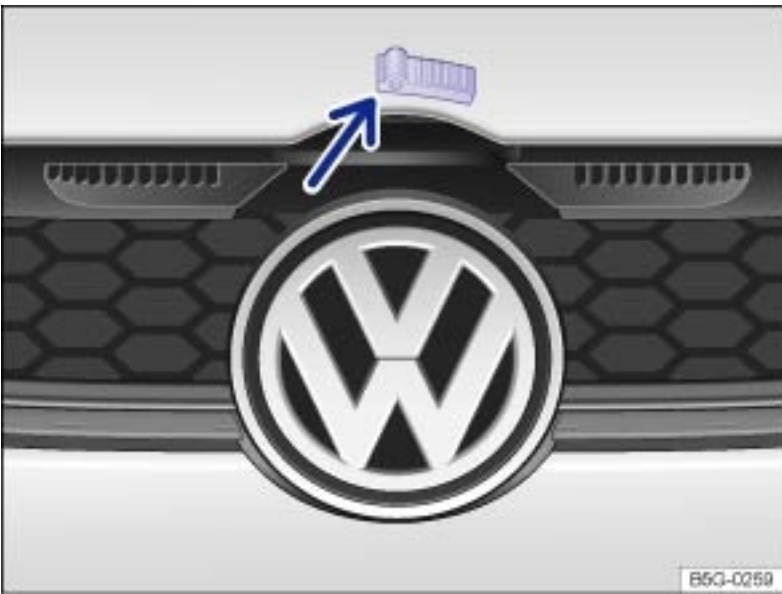

Fig. 189 Above the radiator grille: Outside engine hood release.
- ▶ Push the outside hood release lever → Fig. 189 (arrow) and lift the hood all the way up. A gas-filled strut will hold the hood up.